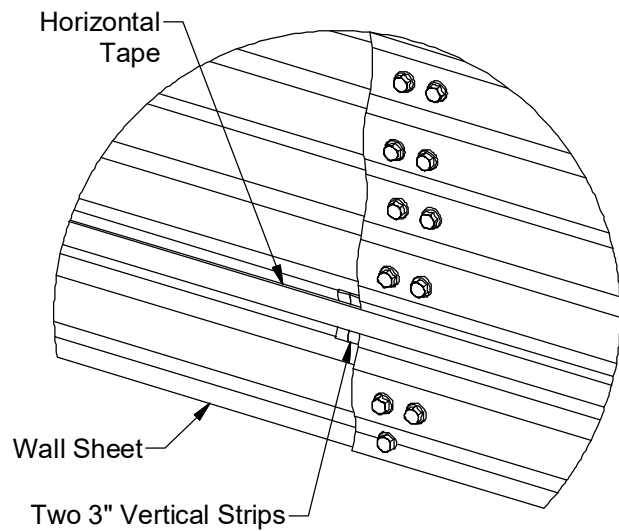

Fig 23 - Bottom mount caulking tape
2. Apply caulking tape horizontally around the perimeter of the system in a continuous line, in the same corrugation valley. The tape from this step will overlap the strips from previous step. See Figure 23.